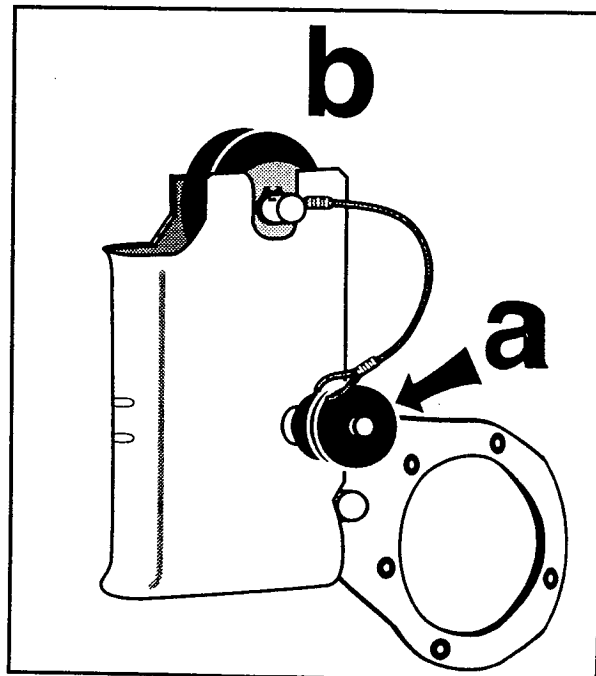

Figure 4
9.2 Depress the button on the safety locking pin (a) out from main assembly. It should pull out from main assembly smoothly and quickly (see Figure 4).
9.3 Swing cam and lever assembly (b) up and away to open up rope channel (see Figure 4).